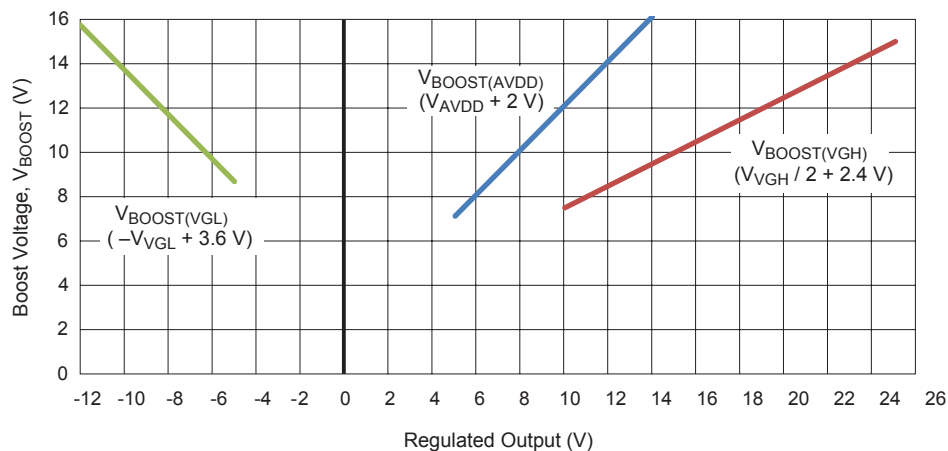

Figure 5. Boost voltage requirement with respect to VGL, AVDD, and VGH
The A8601 contains an integrated DMOS switch and PWM controller to drive a boost converter. The input voltage,  $V_{VIN}$ , (5 V nominal) is boosted to an intermediate voltage,  $V_{OUT}$ , which is the lowest voltage required to keep all outputs within regulation. That is, the effective boost voltage is the highest of the boost requirement of the individual regulators, as illustrated in figure 5.
- The OVP threshold,  $V_{SW(OVP)}$ , is internally set at approximately 19 V typical. Under normal operating conditions, the boost voltage should always be lower than 16 V (as shown in figure 5), so only in the event of a fault will OVP be tripped (for example: output diode open, or wrong sense resistor values).